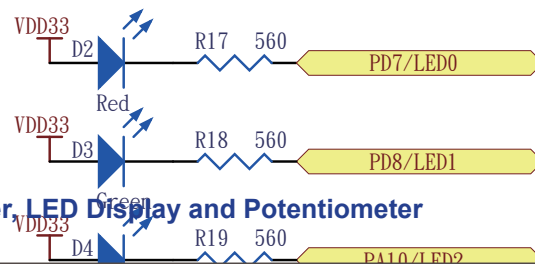

Figure 20. Joystick, Buttons, Buzzer, LED Display and Potentiometer
- Figure 20 includes the Joystick, Buttons, Buzzer, LED Display and Potentiometer.